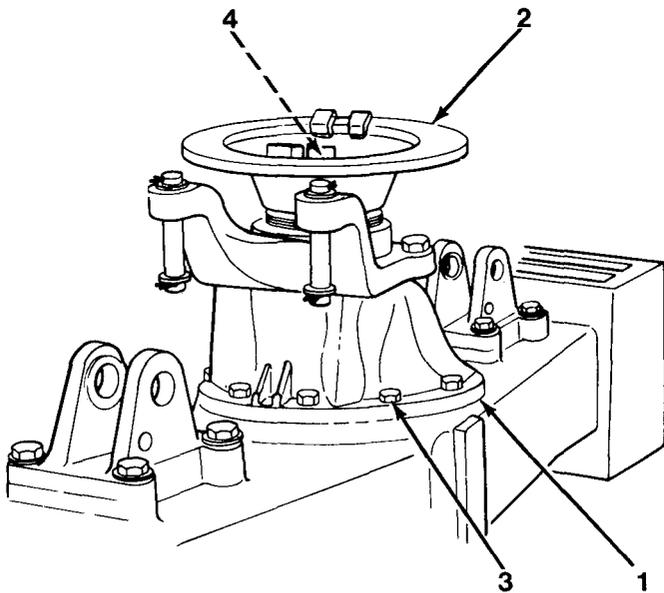

Figure 12-1
5. Using an overhead hoist, attach a suitable lifting fixture to input yoke and disc (2, Figure 12-1).
6. To ease alignment at installation, matchmark differential assembly (1) and axle housing.